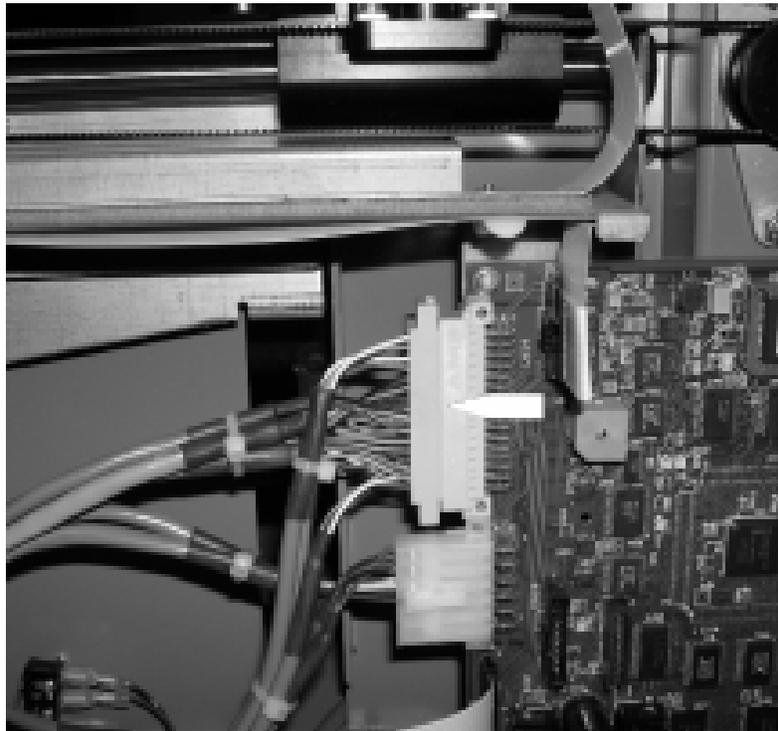

Figure 3: Older Machines
6. The older machine doesn't have that bracket which is ok. Remove the light grey in color connector located on the left side towards the top of the board. Please look at figure 3 for reference.